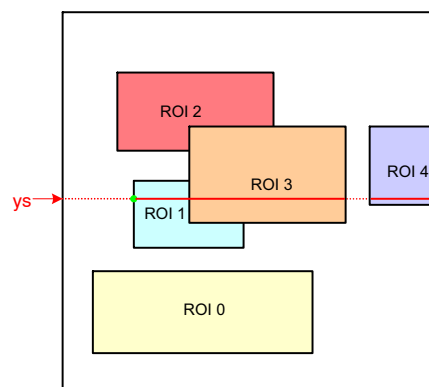

Figure 26. Scanning the Image Array with Five Windows
Figure 26 illustrates a practical example of a configuration with five windows. The current position of the read pointer (ys) is indicated by a red line crossing the image
- The read pointer is not necessarily incremented by one, but depending on the configuration, it can jump in y-direction. In Figure 26, this is the case when reaching the end of ROI0 where the read pointer jumps to the y-start position of ROI1.